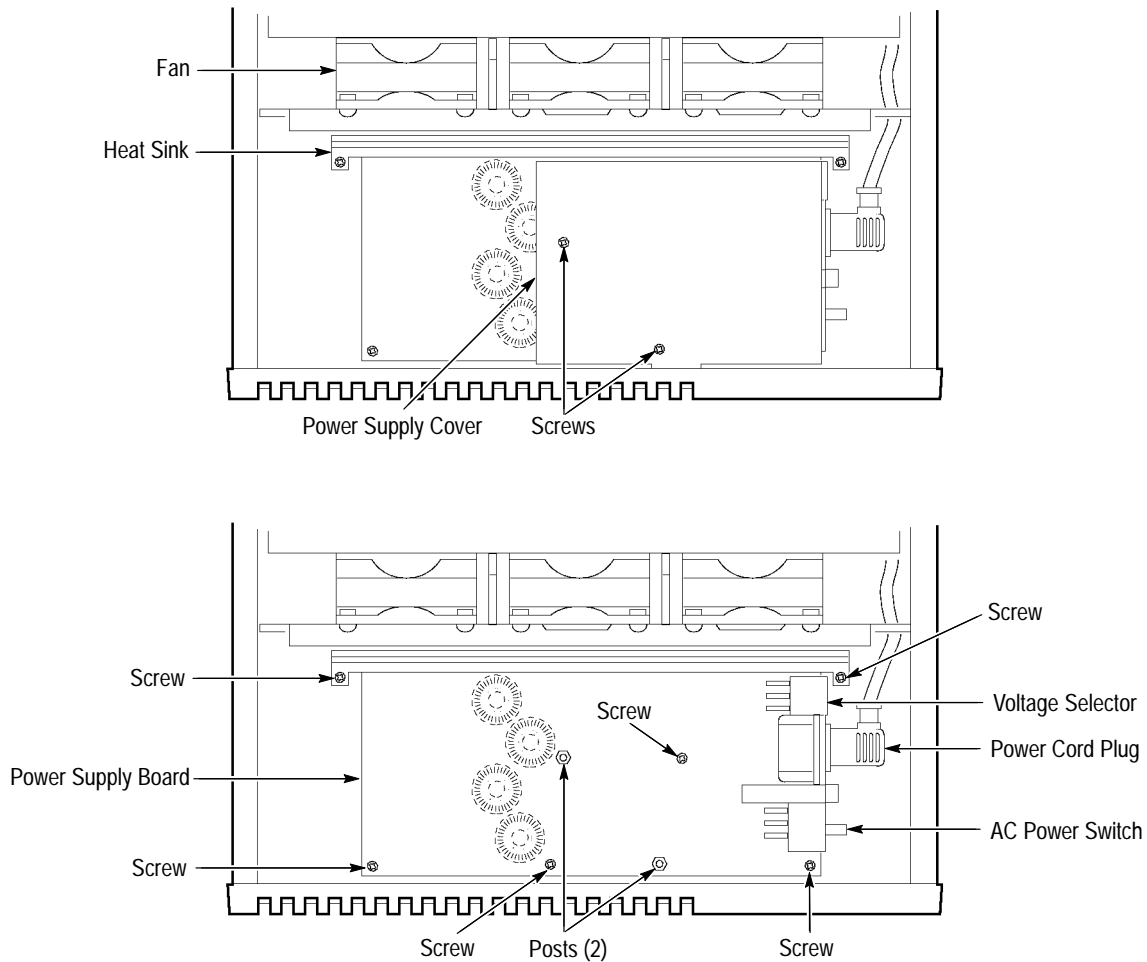

Figure 3-15: Location of Screws for Removing the 92HS8 Power Supply
4. Remove the six screws and the two spacer posts that secure the power supply to the cabinet (see Figure 3-15). Tip the power supply onto its side.